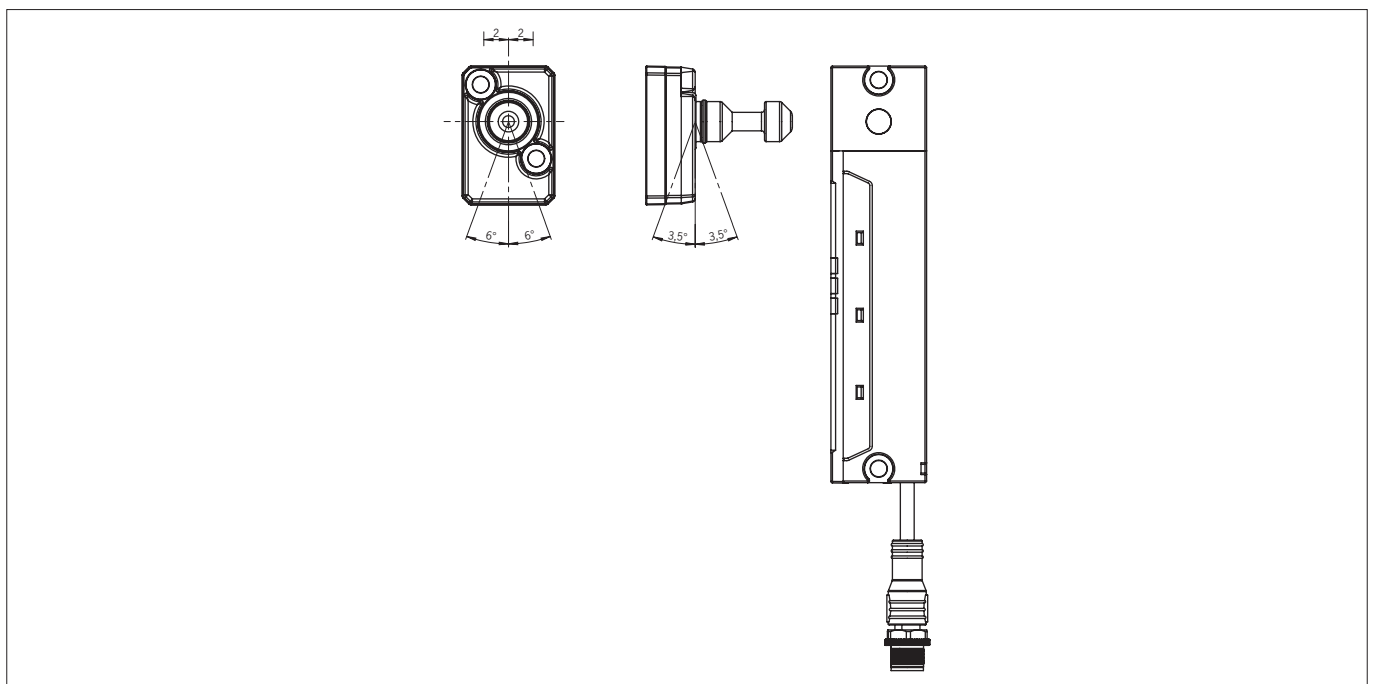

Fig. 4: Maximum center offset and maximum actuator deflection
- Observe the maximum permissible inclination angles between switch and actuator (see Fig. 4).